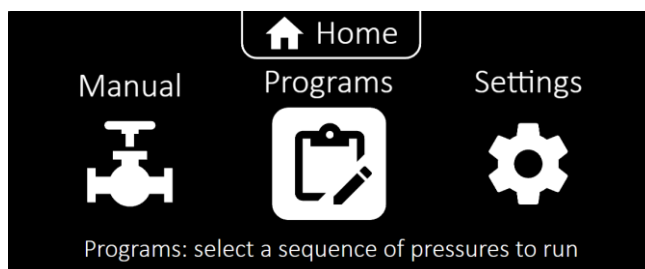

Figure 15: Depiction of vivoCube+ 🏠 Home Menu with the 📋 Programs menu option highlighted
- 5.1 From the 🏠 Home menu of the vivoCube+, select the 📋 Programs menu (the middle option) shown in Figure 15.